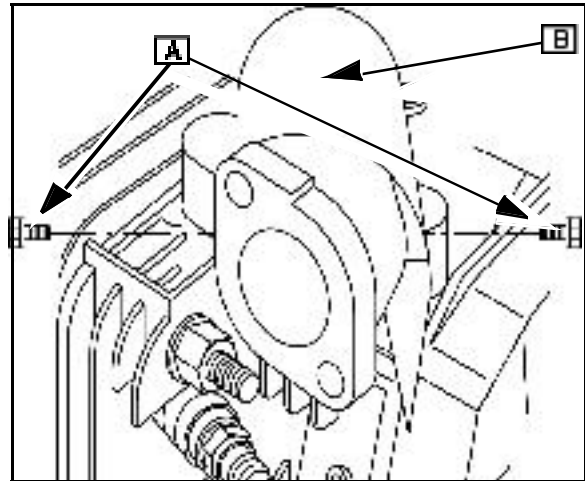

Fig. 8
5. Take off the two screws (A) that hold the exhaust elbow shield ([B] Fig. 8) and remove shield.